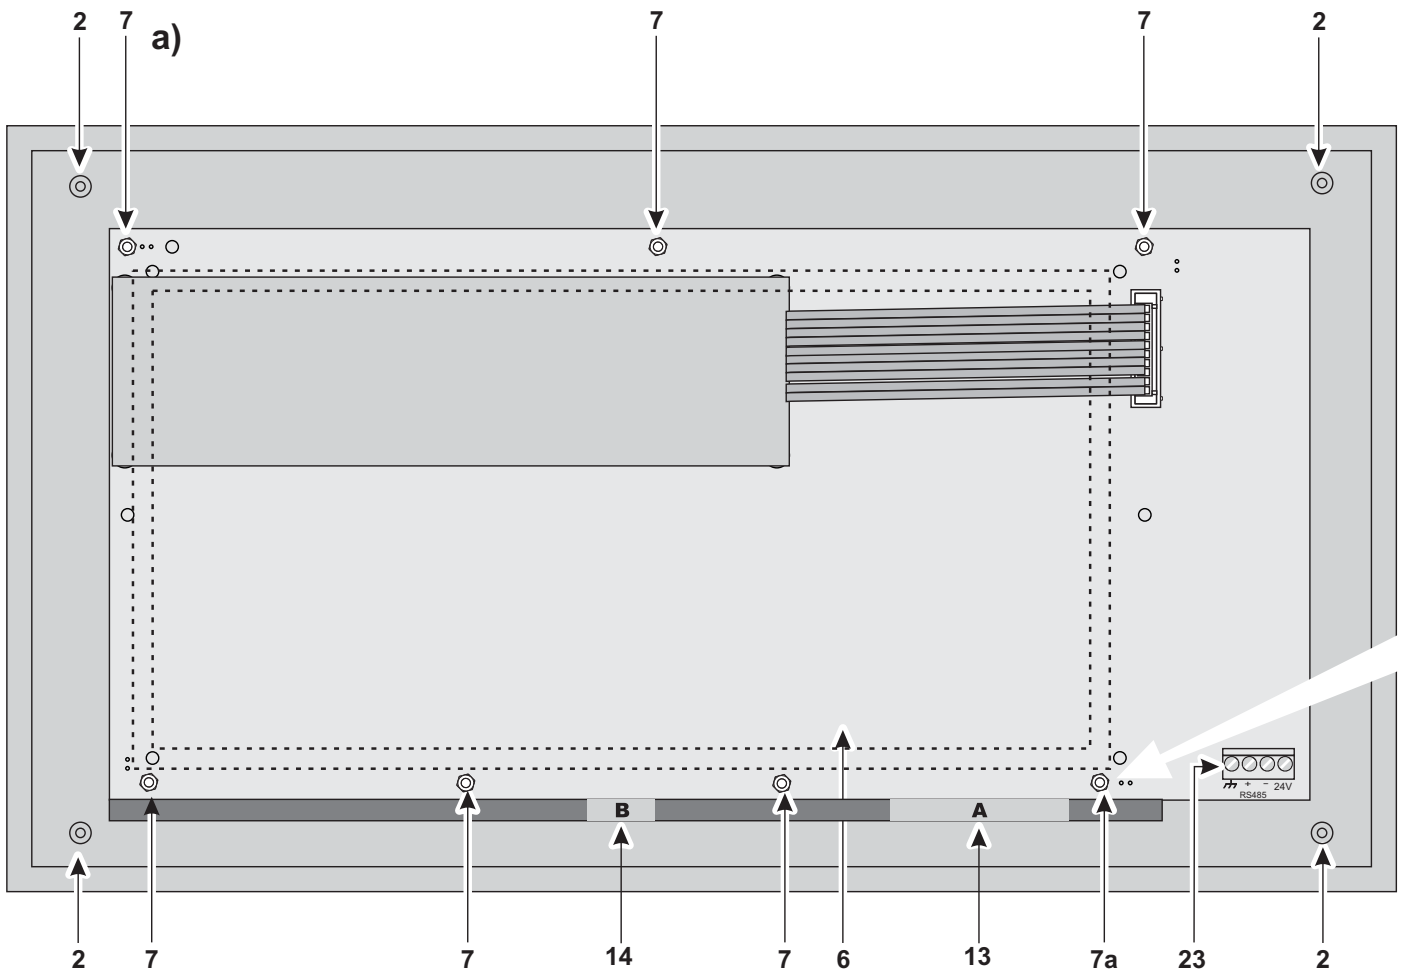

Figure 3 Configuration of the FC500REP Repeater **a)** frontplate (inside view); **b)** backplate.
7a	Earth connection (see figure 3)
2. Remove the screws **2** (see Figure 3) and open the Repeater FC500REP.
- Connect the earth wire to the threaded support 7a on the cover, as illustrated in Figure 3.